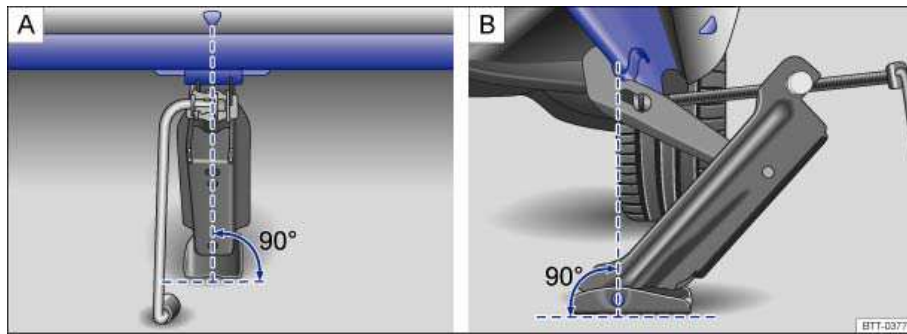

Fig. 339 Jack in position at the left rear lift point.
9. Position the jack so that its base is directly underneath the lift point ⇒ fig. 339, making sure that the entire base of the jack rests securely on the ground.
10. Align the jack and wind up the jack claw at the same time, until the claw cradles the vertical rib underneath the vehicle ⇒ fig. 339 A / B.
- Position the jack only at the described vehicle lift points. Before you raise your vehicle, always make sure the jack claw properly grips the rib under the sill so that the jack does not slip off when you are raising the vehicle ⇒ fig. 339.